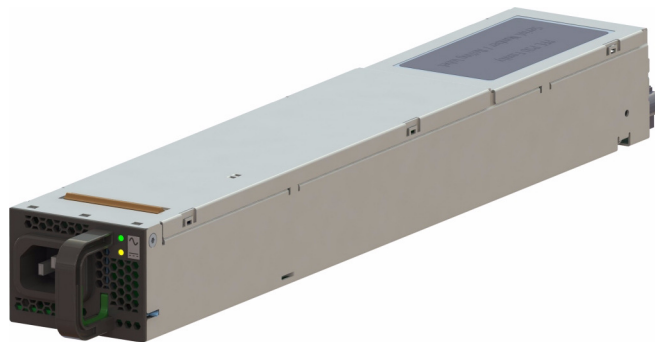

Figure 4-4 Power Supply Module
2. Locate the failed unit in the specified chassis: its amber service LED should be lit, indicating a fault (see Figure 4-4).